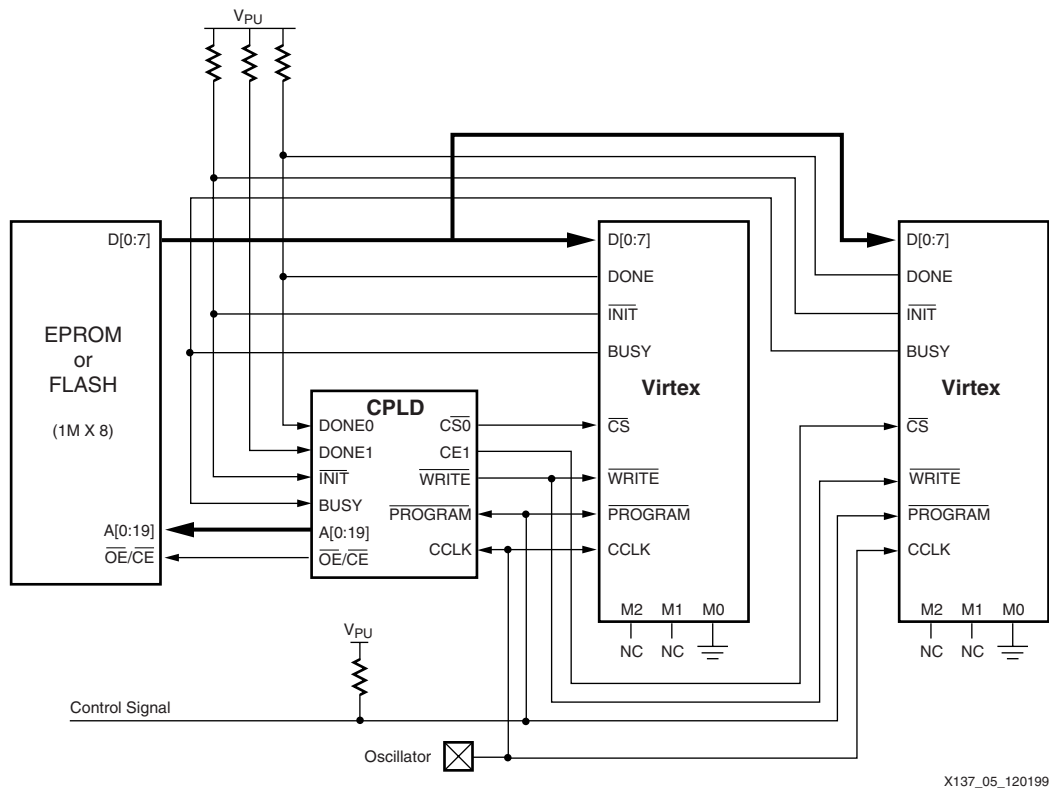

Figure 3-9: Configuring Virtex-II from Parallel EPROMs
- XAPP137: *Configuring Virtex FPGAs From Parallel EPROMs With a CPLD* (available on [www.xilinx.com](http://www.xilinx.com)) describes an architecture that configures one or more Virtex-II devices using the Slave SelectMAP mode. See Figure 3-9 for an example of FPGA configuration using a CPLD and a parallel EPROM.